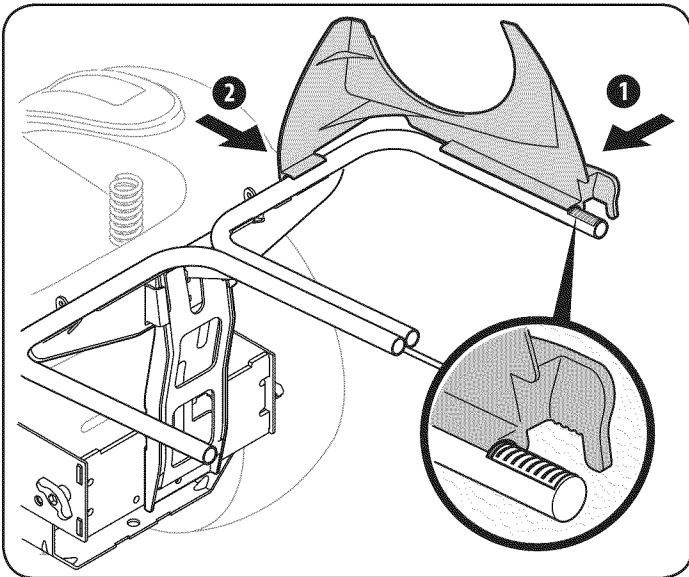

Figure 10
1. Snap the plastic upper chute support in place by first clipping the side portion onto the bag support rail with the edge of the snap feature aligned with the red line (1), as shown in the inset of Figure 10.
2. Snap the front portion of the upper chute support to the bag support rail as seen in 2 of Figure 10.